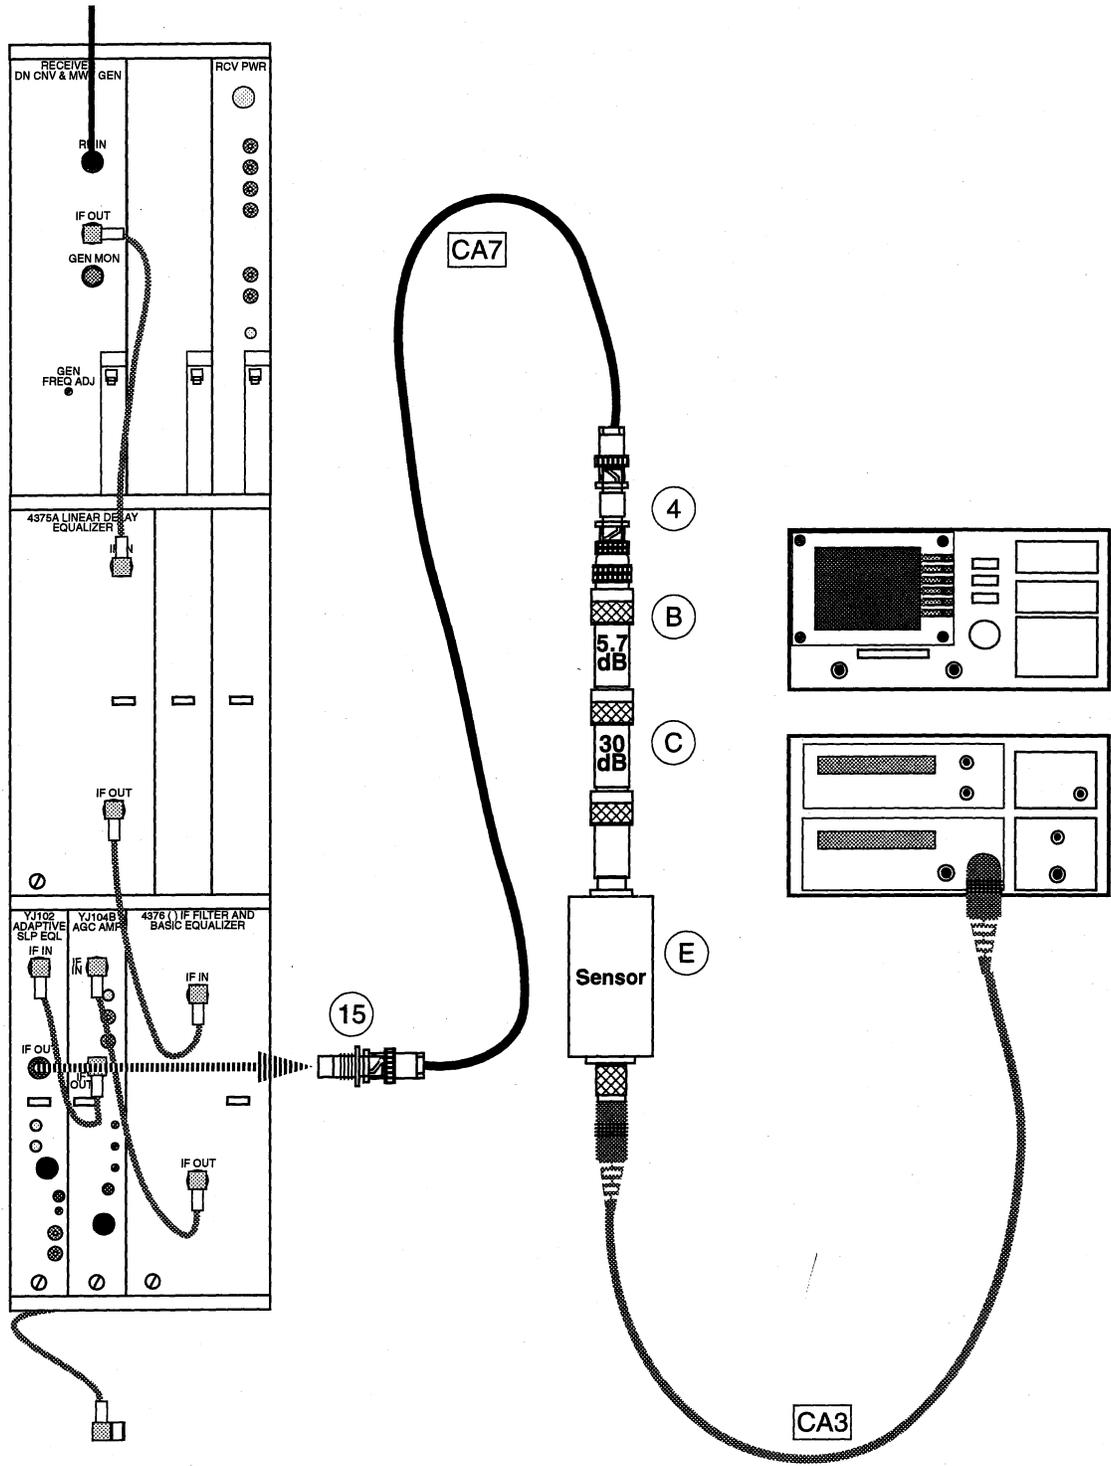

Figure 14. Adaptive Slope Equalizer IF OUT Level (Non-DIV)
- c. Connect the power meter to the IF OUT jack as shown in Figure 14.